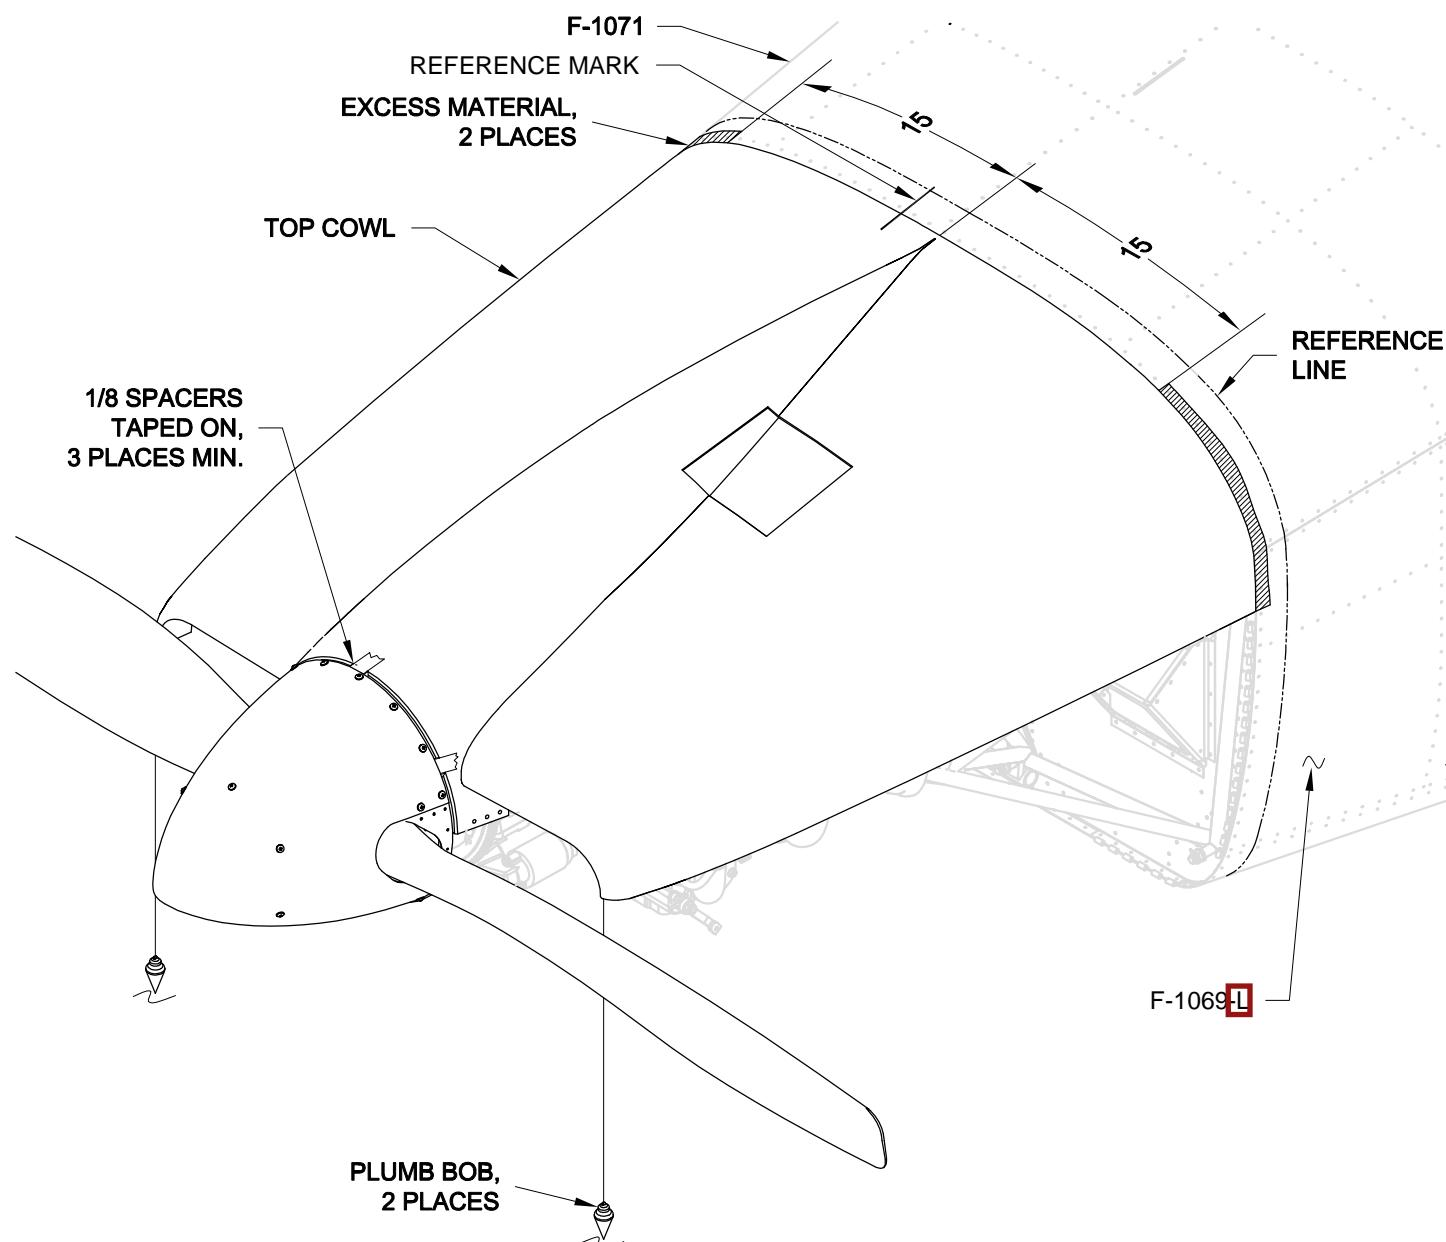

FIGURE 1: FITTING THE TOP COWL
Step 3: Level the aircraft laterally. Place the top cowl on the aircraft, centering it behind the spinner. Hang plumb bobs from symmetrical points on the forward edge of the top cowl air inlets to the floor as shown in Figure 1. When the length of the plumb bobs is equal, the top cowl is level with the aircraft. Make a reference mark on the aft edge of the top cowl that extends onto the F-1071 Fwd Fuse top Skin.